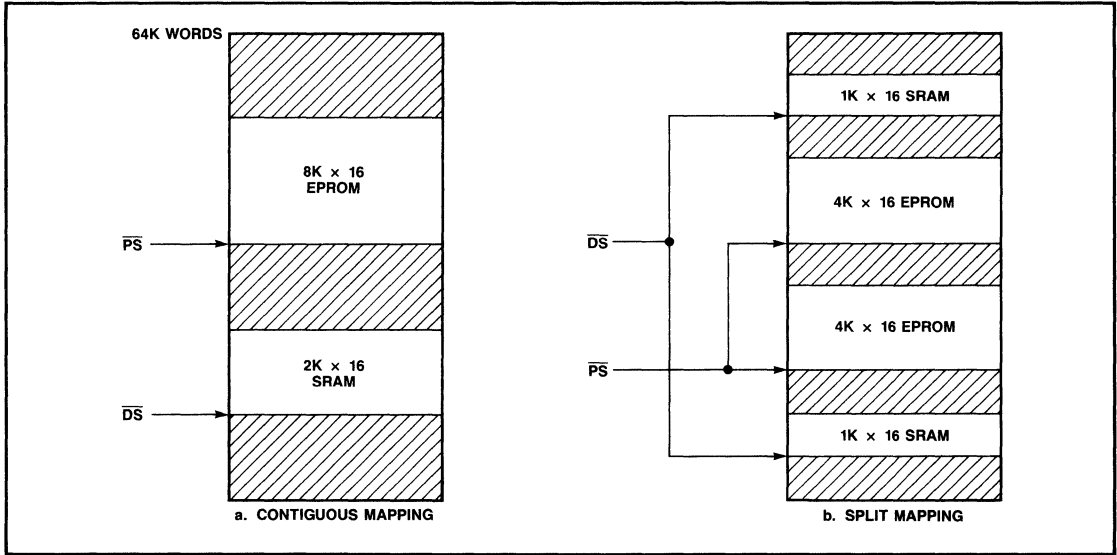
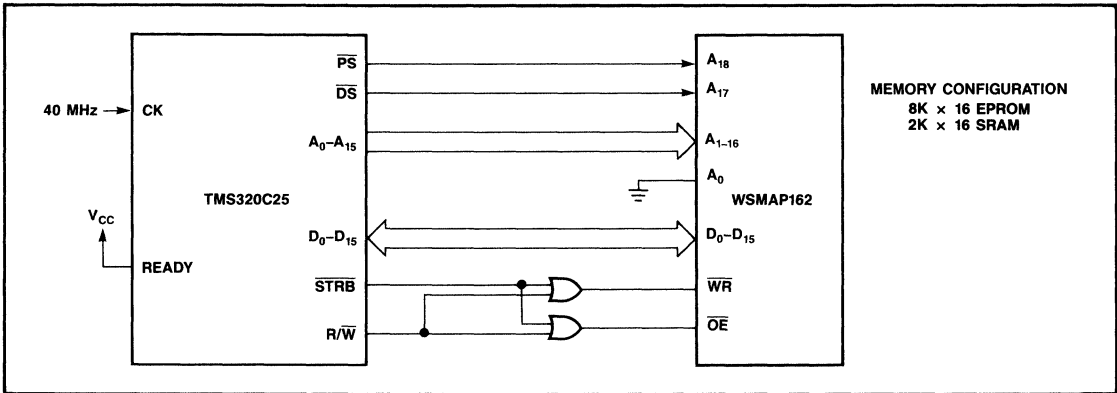

Figure 8. Examples of Mapping Memory Using the WSMAP162
Figure 9. Interfacing the WSMAP162 to a TMS320C25 in a DSP Application (x16 Configuration)
The WSMAP162 is especially suited for high-speed word-oriented (no byte operations) microprocessors. The TMS320C20/25 DSP family is an example of such a microprocessor. Figures 9 and 10 show two options of interfacing the WSMAP162 to a TMS320C25 operating at 40 MHz with no wait states. The TMS320C25 has two pins for selecting Program Memory (PS) and Data Memory (DS). These functions are connected to the higher order address of the WSMAP162. PS is connected to A18 and DS is connected to A17. Usually PS will select the EPROM and DS will select the SRAM. See Figure 8.
When in a wordwide (x16) configuration, the total memory available on the WSMAP162 is 8K x 16 of EPROM and 2K x 16 of SRAM. See Figure 9. This implementation replaces a minimum of: